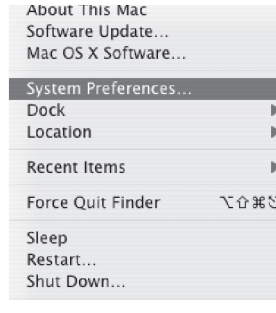

Figure 1
2.To select the C01U as the computers audio input, open the System Preferences from the dock or the main Apple Menu (figure 1).